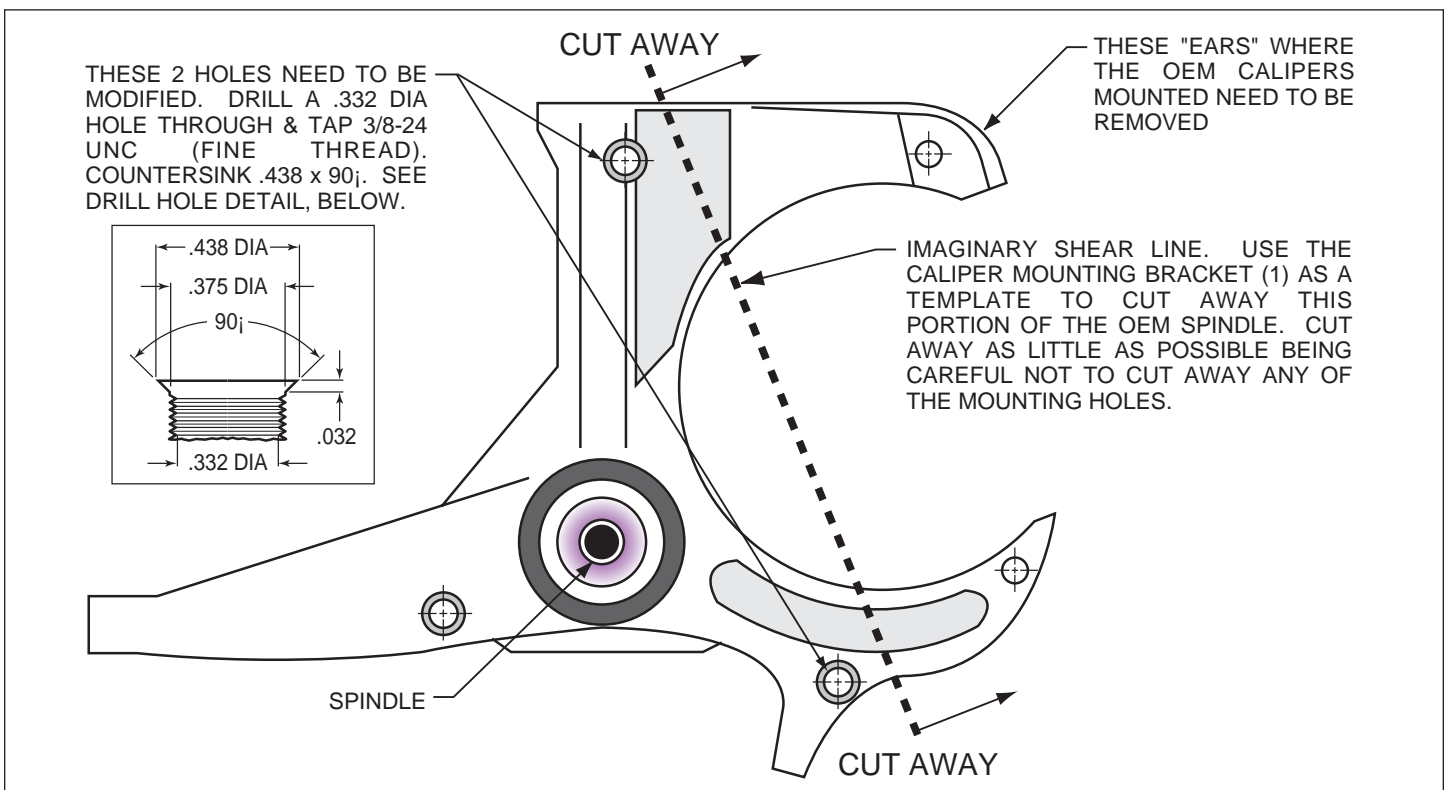

Figure 1. Steering Arm / Spindle Modifications
These modifications should be performed by a qualified machinist. Refer to Figure 1 as necessary (numbers in parenthesis refer to the parts list on page four). Only one view of the steering arm/spindle is shown, but the modifications need to be performed on both steering arm/spindles.
- Mount the adapter/rotor assembly (8/9) to the hub (5) using bolts (11) (finger tight), as shown in Figure 1. Using an alternating sequence, remove bolts one at a time, apply red *Loctite*® 271 to the threads, and torque to 45 ft-lb.
- Pack the small outer bearing cone (12) with high temperature disc brake bearing grease and install into front of hub (5). Slide the hub/rotor assembly (5 and 9) with outer bearing cone (12) onto the spindle. Secure using stock washer, adjusting nut and nut locking device.
- Install the dust cap (15) onto the hub (5). Friction created by the o-ring (14) on the dust cap (15) keeps it from unscrewing. The O.D. of the existing spindle washer may be larger than the I.D. of the dust cap (15) not allowing it to seat against the hub face. Therefore, use the spindle washer (13) supplied with the kit instead of the stock washer.